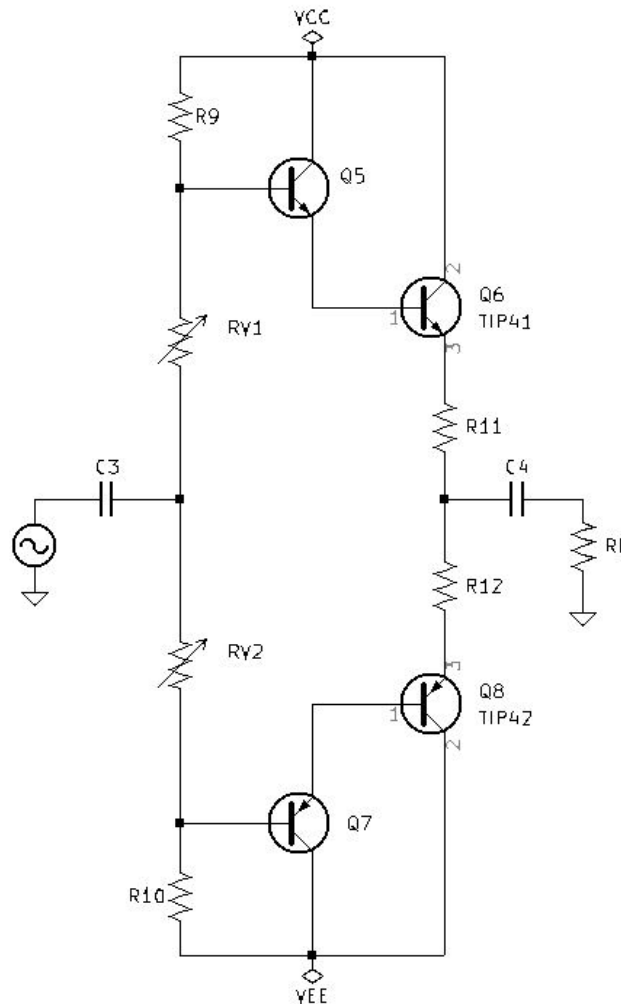

Figure 5.3: Push Pull Amplifier Calibration Circuit.
4. See Figure 5.3 *Push Pull Amplifier Calibration Circuit* on page 47. Replace the diodes D1 and D2 with a variable 10-turn variable resistor. This resistor can be calculated using the formula $R_{var} \approx \frac{1.4V}{I_{Diode}}$. Make sure the variable resistor is capable of going just above the calculated resistance. In the circuit, replace diodes D1 and D2 with the 10-turn variable resistor and adjust the variable resistor to 0Ω . Repeat this step for diodes D3 and D4.